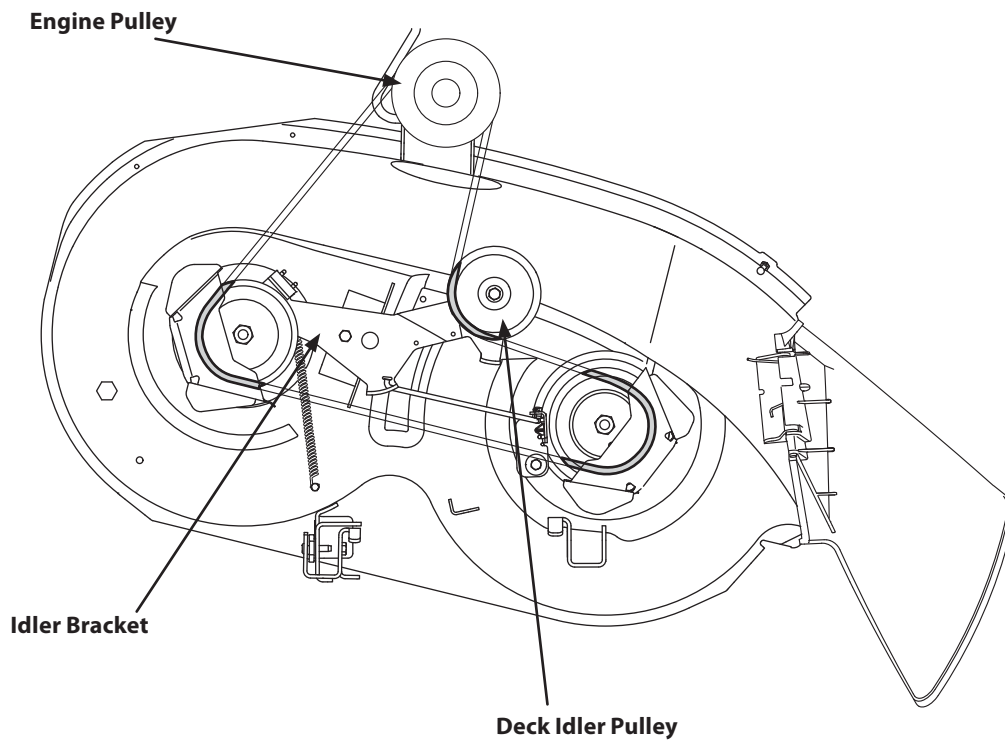

Figure 7-9
6. Route the new belt as shown in and Fig. 7-9.